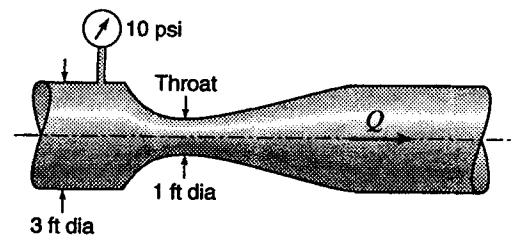

Figure S5.9
5.10.2 Water at 40°C flows horizontally through a constriction similar to that in Fig. S5.9 when the atmospheric pressure is 715 mmHg. The gage reading is 35 kPa, $d_1 = 0.5 \text{ m}$, and $d_2 = 0.15 \text{ m}$. Neglecting head loss, find the flow rate at which cavitation begins.